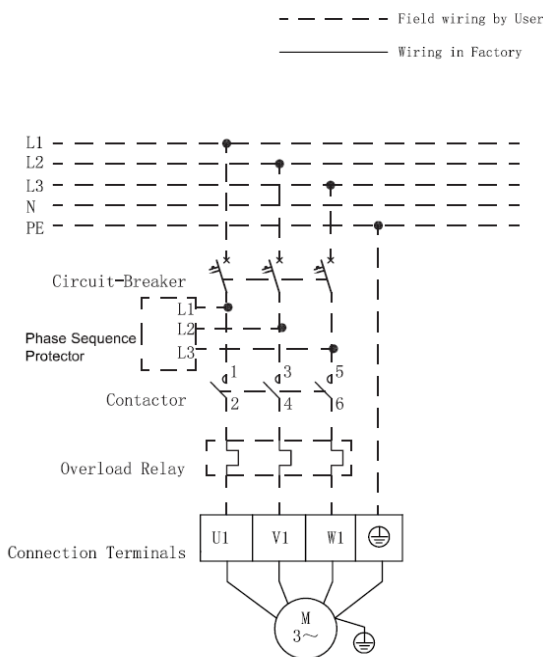
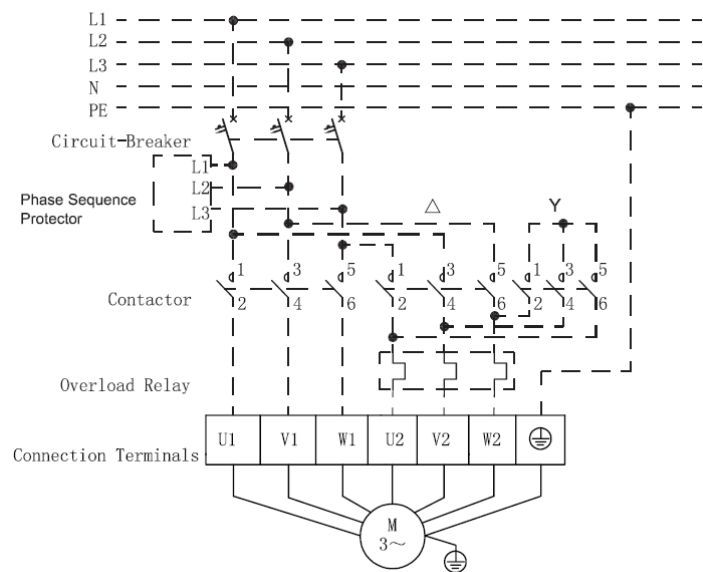

Fig.1
Fig.2
1. The direct start schematic diagram (Fig.1) is for motor up to 5.5kw. The Y- Δ start schematic (Fig.2) for motors more than 7.5kw.
2. The dashed lines is provided by customer and it should be connected according to Fig.1 or Fig.2. Please ensure that all connections are tightened.